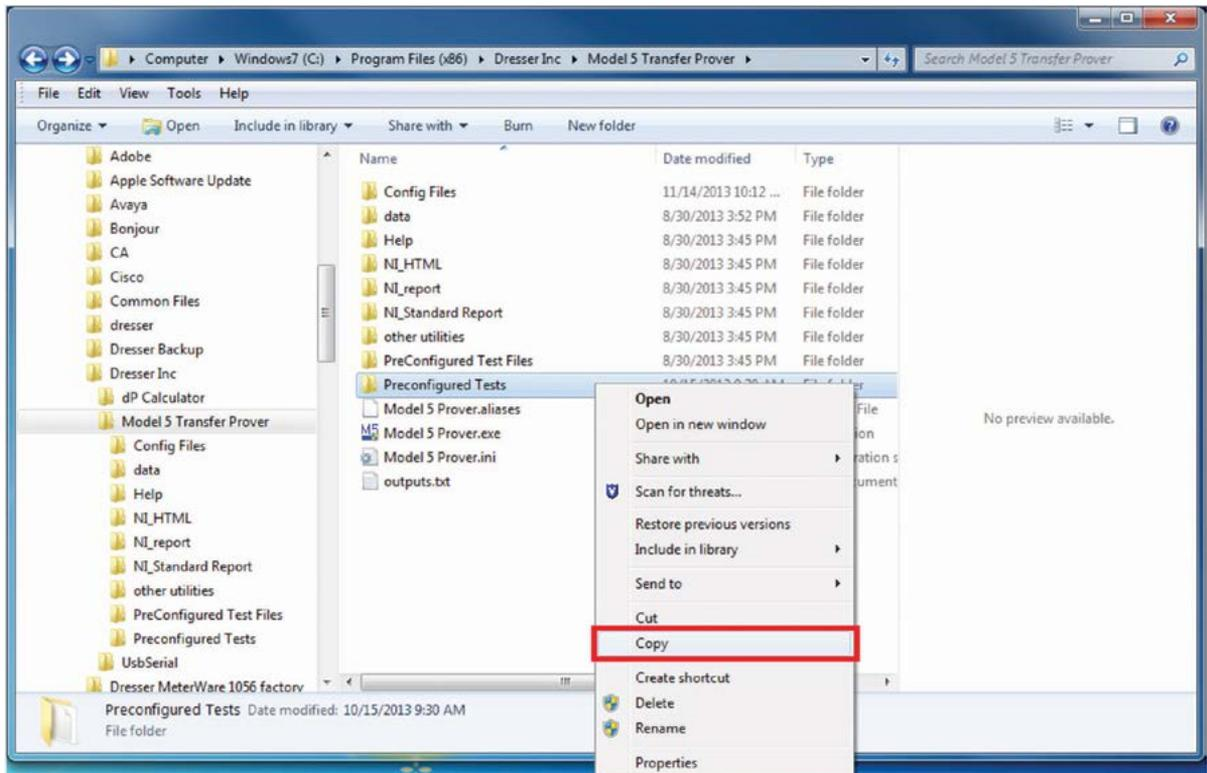

Figure 17: Copy Folder
17. Highlight the folder "Preconfigured Tests". Do not open. Right click the file. Select "Copy" as shown in **Figure 17**.